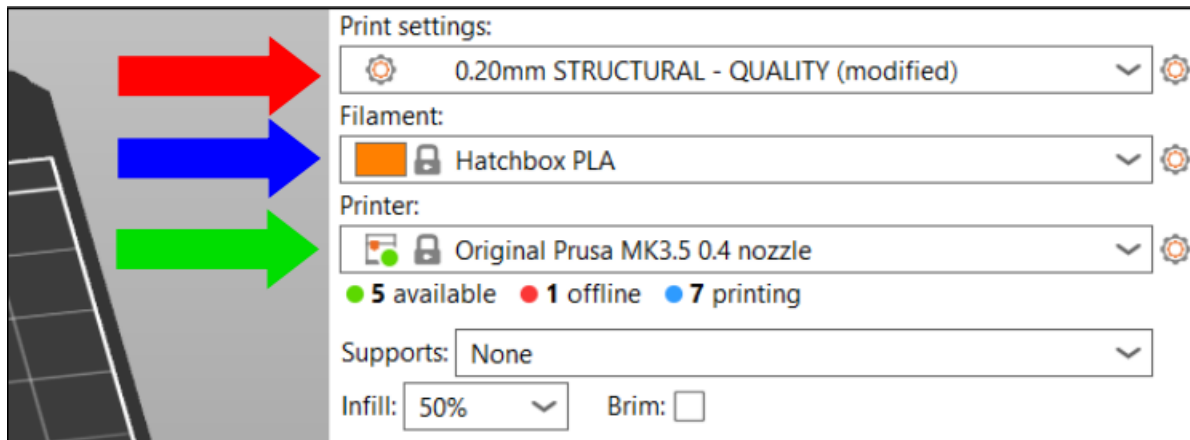

Figure 4. Main Plate Settings
5.) Go back to the “Plater” tab in the top left corner of PrusaSlicer. Then click the “Print settings” drop-down menu and select the 0.20mm Structural option (see red arrow in Figure 4).
- 6.) Open the Filament drop-down menu (see blue arrow in Figure 4) and select the filament type you want to print in.
- 7.) Open the Printer drop-down menu (see green arrow in Figure 4) and select your printer make and model.